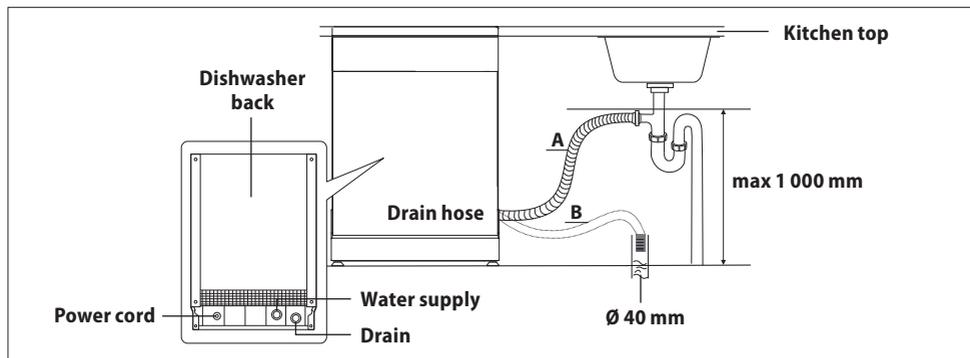

Fig. 18
5. Connect the drain hose according to Fig. 18.
Connect the drain hose to the waste pipe with a minimum diameter: 40 mm (Fig. 18). Make sure the drain hose is not bent or squeezed to prevent slowing down or stopping of the water flow.